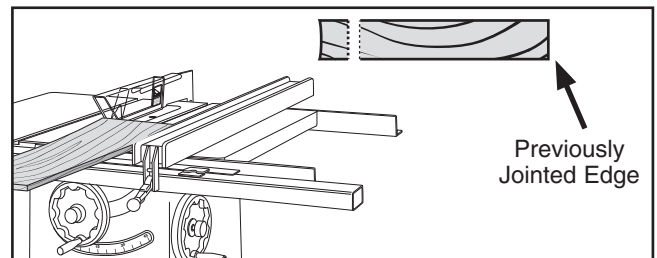

Figure 44. Rip cutting on a table saw.
4. **Rip Cut on a Table Saw:** The jointed edge of the workpiece is placed against the table saw fence and the opposite edge is cut off (see **Figure 44**).